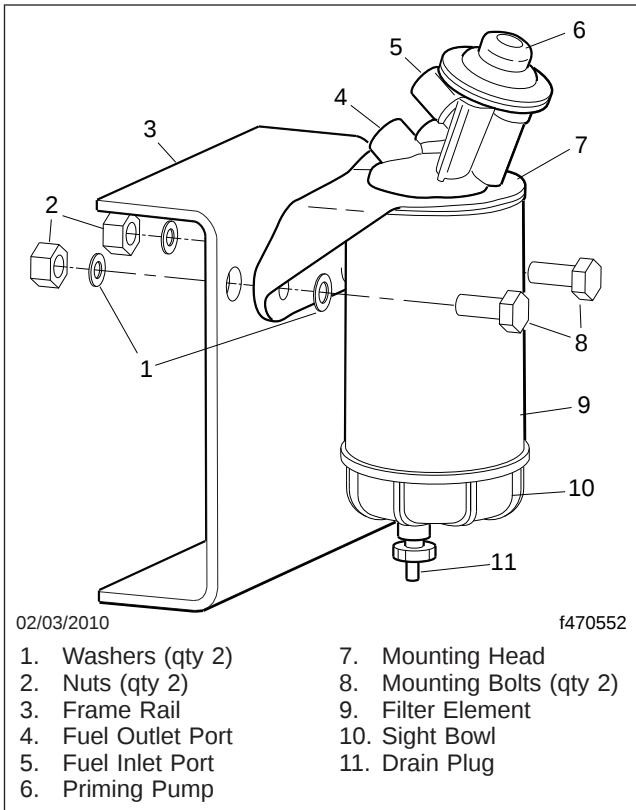

Fig. 21.12, Alliance Fuel/Water Separator Assembly and Installation
- 4.2 Alliance/Racor Models: Turn the drain plug counterclockwise to open it. See Fig. 21.12.